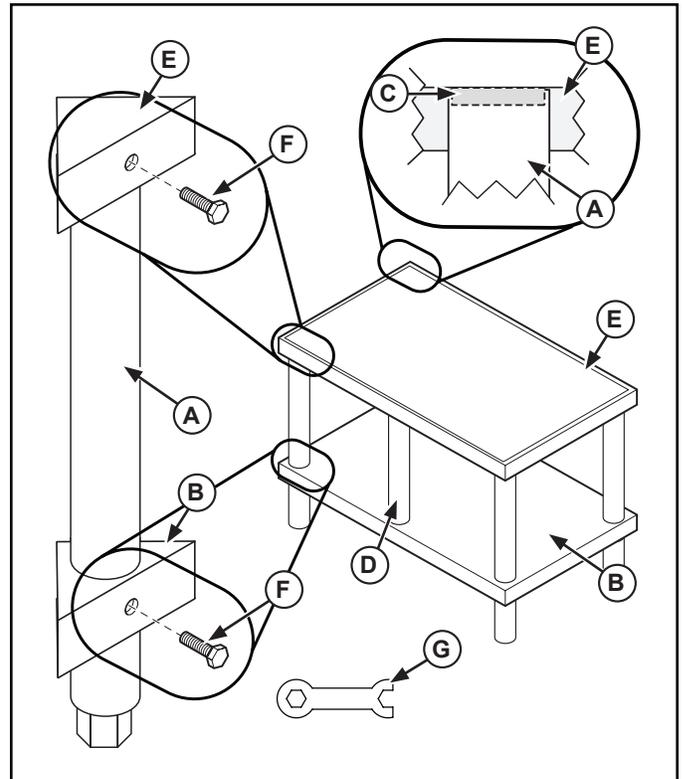

Figure 1. Equipment Stand Assembly.
3. Insert the leg (A) through the hole in the shelf (B). See Figure 1. Repeat for all the legs.
5. 60" and 72" models only. Slide the center legs (D) into the center leg hole on shelf (B). See Figure 1.
6. Slide the top (E) onto the legs (A and D) so that the legs slide completely over the extrusions (C).
7. Tighten the eight hex bolts with the wrench (G) provided (75-80 in. lbs.).